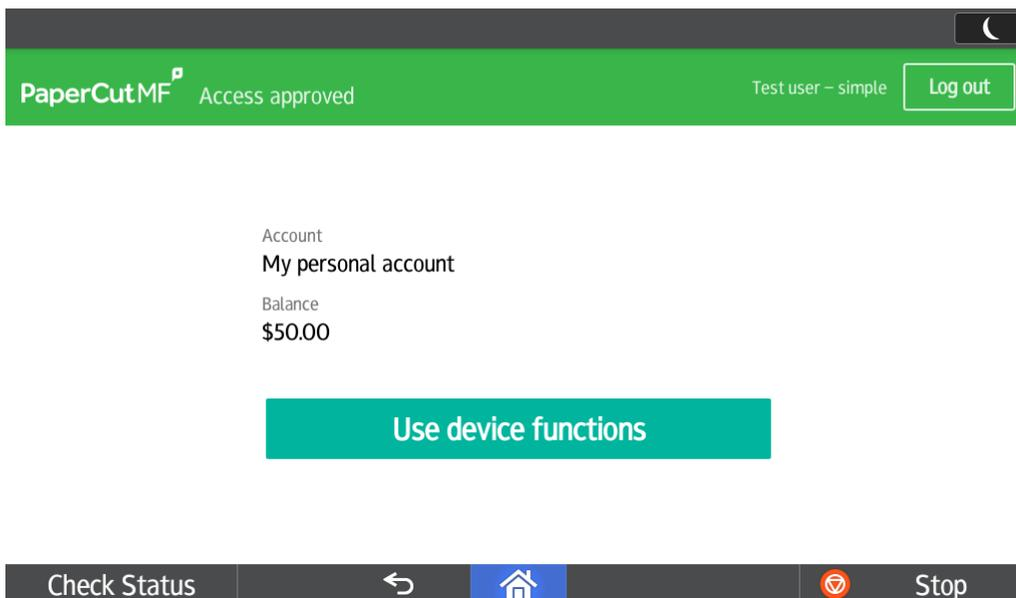

Figure 10: Account confirmation screen
2. On the account confirmation screen (Figure 10), press **Use device functions**.